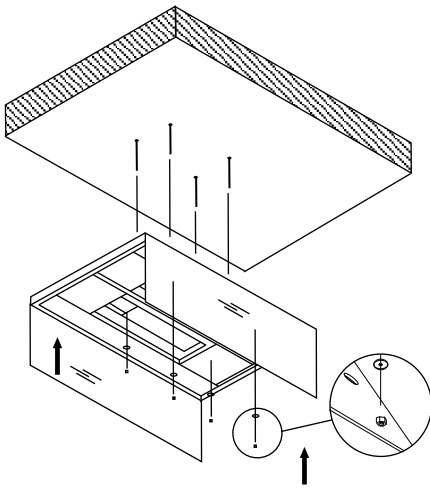

Fig 10
- Align the fixings to the holes on the hood and tighten bolts to fix the hood to the ceiling (**Fig 10**).